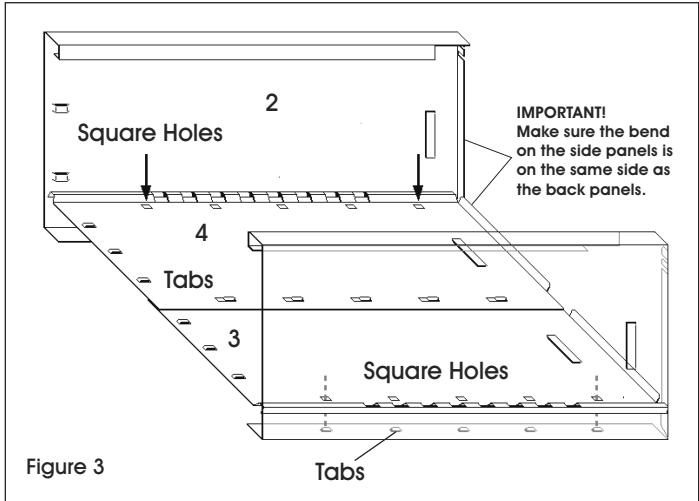

Figure 3
1. With the back panels laying on a flat surface, lift the outside edge of the right back panel (4) and slide the L-shaped bend of the right side panel (2) under it. (See Figure 3)
2. Insert locking tabs on the right side panel (2) into the matching square holes in the right back panel (4). (See Figure 3)
3. Once all locking tabs are placed into square holes, slide the side and back panels in opposite directions to fully engage the locking tabs. (See Figure 3)